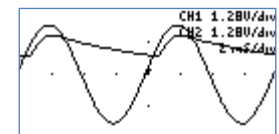

Figure 57: Half wave rectifier
- 5) The display should look like figure 57.